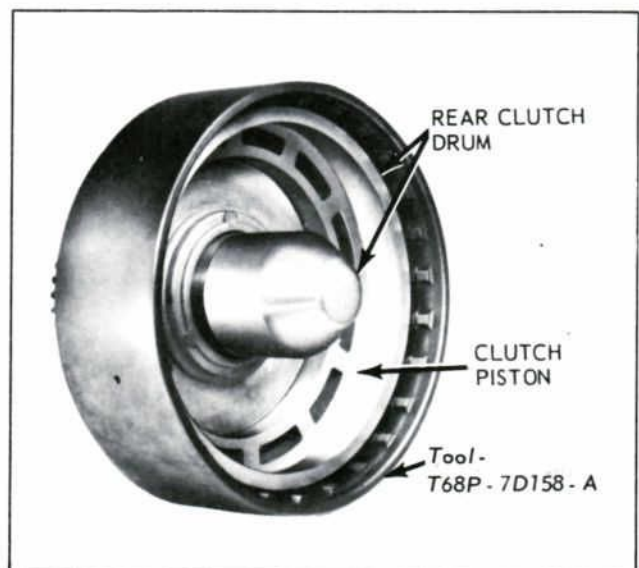

Figure 8—Installing Rear Clutch Piston
4. Hold the piston and large fixture together and insert as a unit into the cylinder (Fig. 8). Push down over the small fixture until the large tool stops against the shoulder in the cylinder; then push the piston down, out of the tool, until it bottoms in the cylinder.